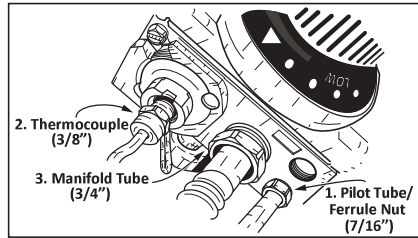

Figure 50 - Component Removal
**3** Uninstall the actuator fitting from the gas valve using a 9/16" wrench (See Figure 50).
**4** Uninstall the remaining three connections from the gas control valve/thermostat in the following order (See Figure 50).